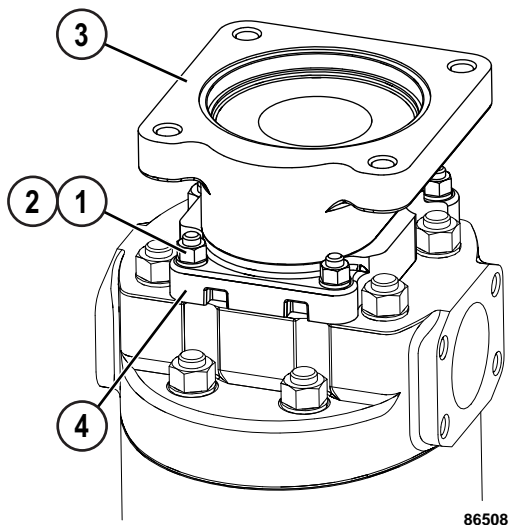

FIGURE 50-8. HOIST PUMP DISASSEMBLY & ASSEMBLY
4. Remove four nuts (1, Figure 50-8) and flat washers (2). Remove transition plate (3) and bearing plate (4) as a unit. Remove the O-ring from the bearing plate.
5. Remove the capscrews that secure bearing plate (4) to transition plate (3). Separate the plates and remove the O-ring. Remove the dowels if necessary.